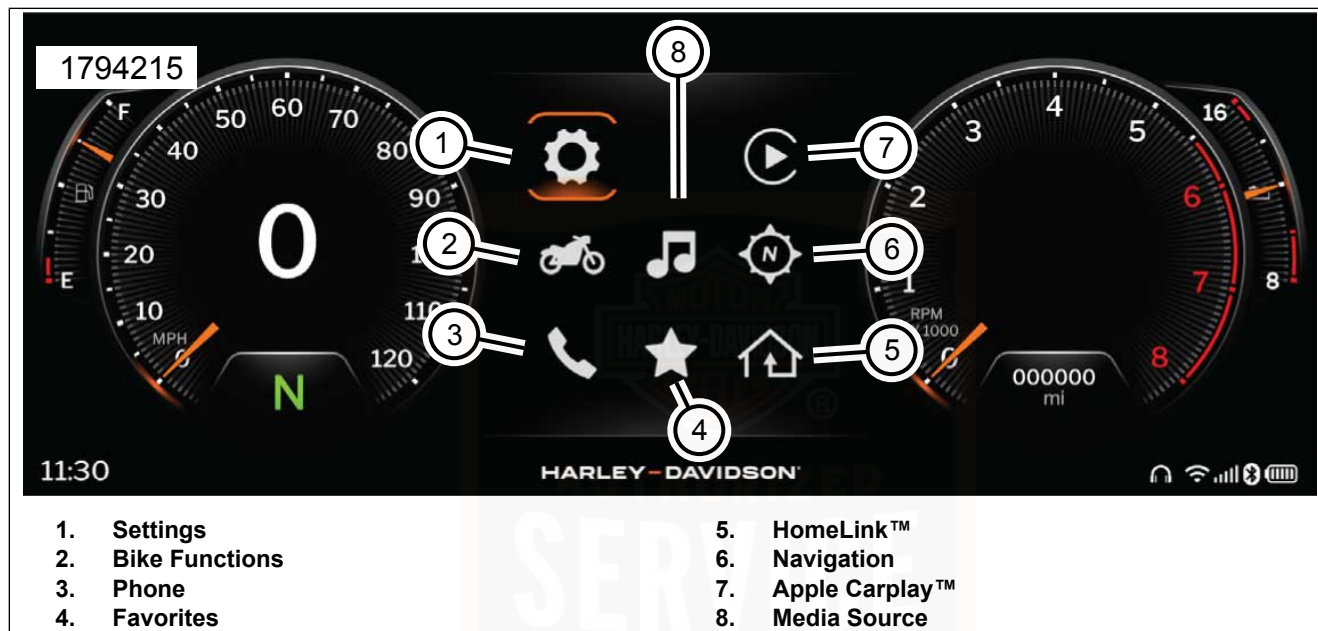

Figure 81. IFCU Menu Selections
- a. See Figure 81. Using left hand control or touch screen, navigate to **Settings>System>System Info>Product Information**. This menu will show the current software version on the IFCU. See Operation > Infotainment Control Unit (IFCU) (Page 90).